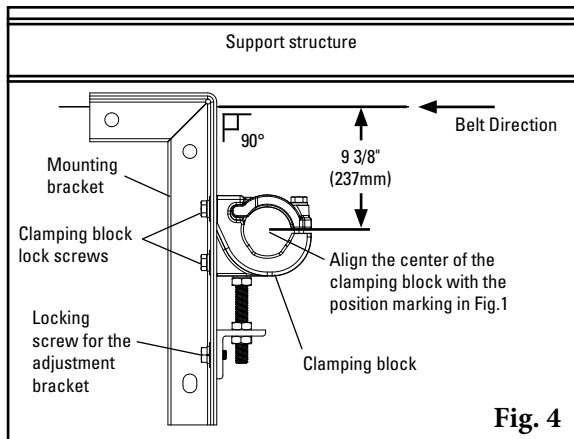

Fig. 4
4. **Clamp the mounting bracket into position (use screw clamps).** Move the clamp block to align the center of the block with a point 9-3/8" (237 mm) below the belt (Fig. 4). To move the clamp blocks, if necessary, loosen the clamp block lock bolts and the adjusting bracket lock bolt and turn the adjusting bolt jam nuts. The bracket can now be bolted or welded in place. Locate and install bracket on the opposite side of belt in alignment with the first bracket.